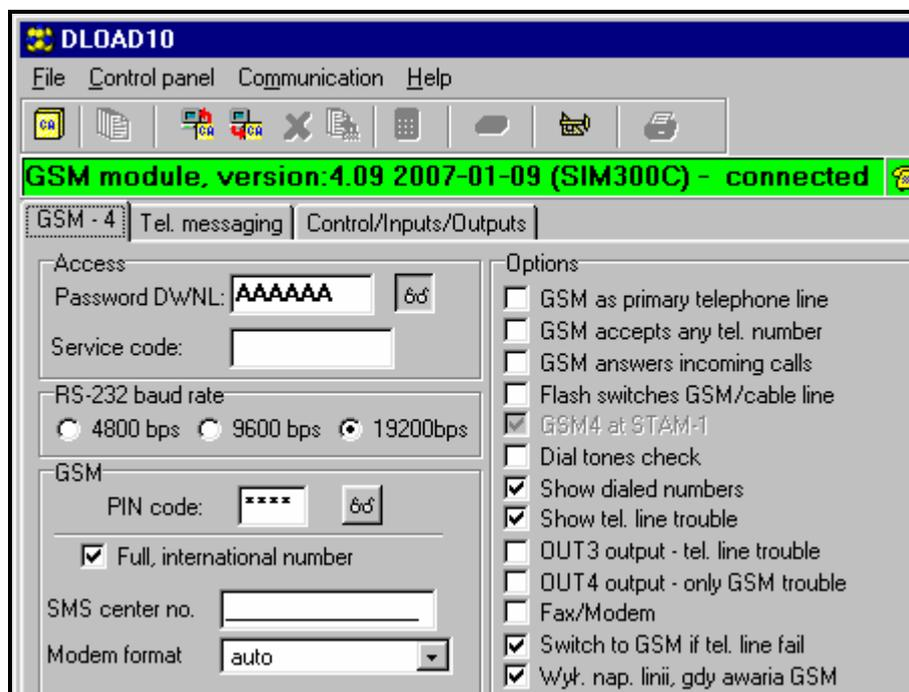

Figure 13.
4. Enter the DOWNLOADING password (preprogrammed in the module with „**DWNL code**“ service function - see figure 13). By default, the password (AAAAAA) is not preprogrammed in the GSM-4S module.